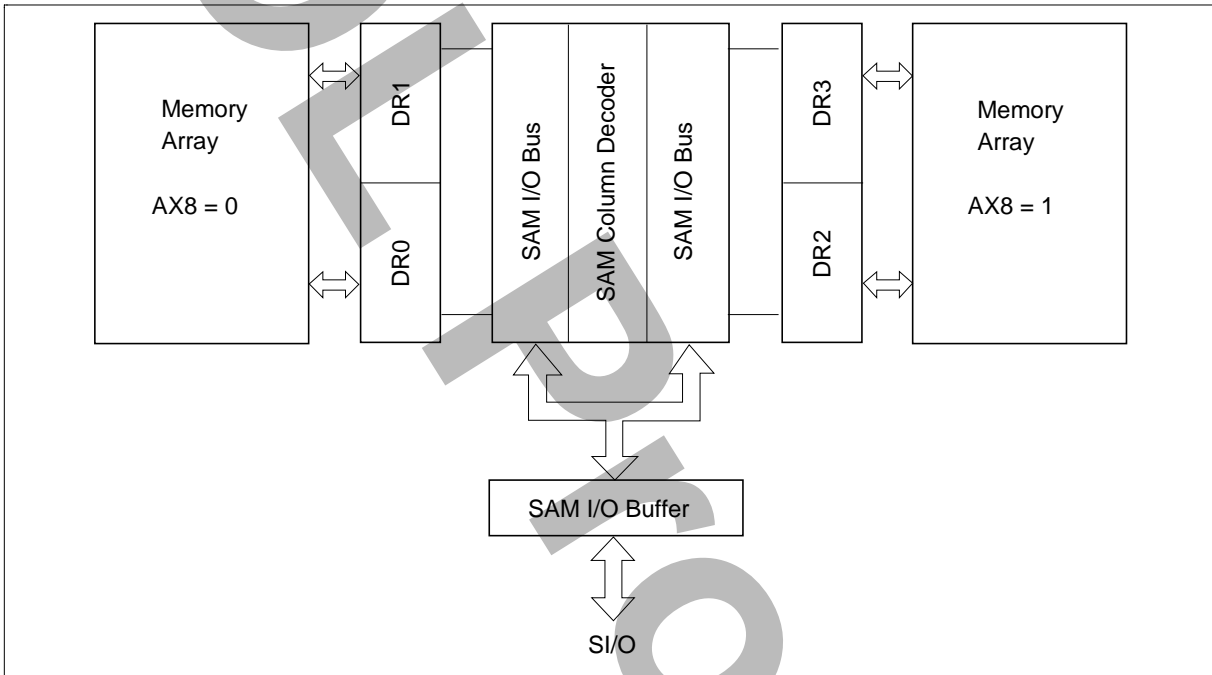

Figure 5 Split Transfer Block Diagram
Figure 5 shows the block diagram for the normal split register operation. SAM data register (DR) consists of 2 split buffers, whose organizations are $256\text{-word} \times 8\text{-bit}$ each. Suppose that data is read from upper data register DR1. (The row address AX8 is 0 and SAM address A8 is 1.) When split read transfer is executed setting row address AX8 to 0 and SAM start addresses A0 to A7, $256\text{-word} \times 8\text{-bit}$ data is transferred from RAM to the lower data register DR0 (SAM address A8 is 0) automatically. After data is read from data register DR1, data read begins from SAM start addresses of data register DR0. If the next split read transfer isn't executed while data is read from data register DR0, data read begins from SAM start address 0 of DR1 after data is read from data register DR0. If split read transfer is executed setting row address AX8 to 1 and SAM start addresses A0 to A7 while data is read from data register DR1, $256\text{-word} \times 8\text{-bit}$ data is transferred to data register DR2. After data is read from data register DR1, data read begins from the SAM start addresses